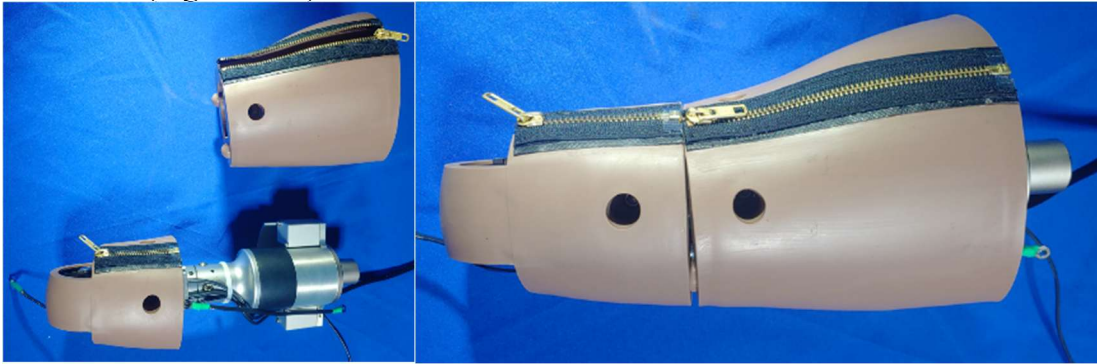

Figure 9-46. Zip the Upper Leg Flesh (474-5122-1,2) around the Upper Leg Assembly
- 9.3.13 Zip the Upper Leg Flesh (474-5122-1,2) around the Upper Leg Assembly (Figure 9-46).